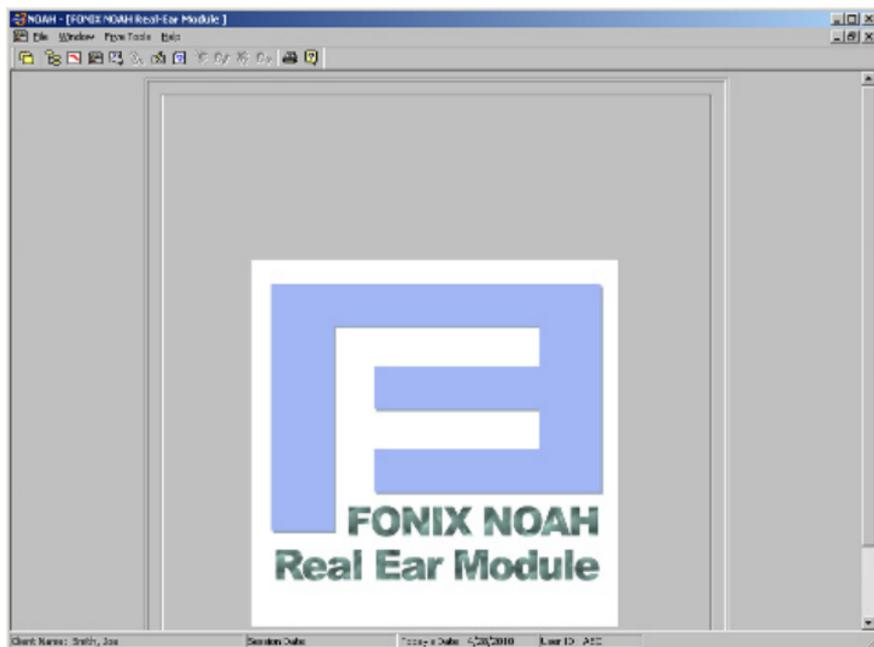

Figure 6: FONIX NOAH Real-ear Module root window
3. Minimize the main test window and click the  icon in your Start bar. This will display the Real-ear Module root window with the NOAH toolbar, shown in Figure 6.